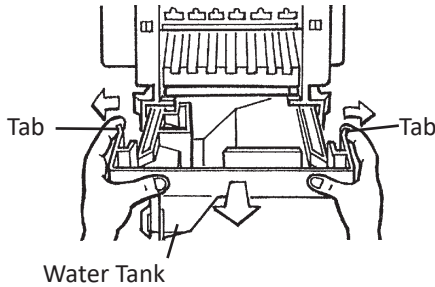

Fig. 42
- 5) Spread out the tabs to unlock the water tank, then slide it out. See Fig. 42.